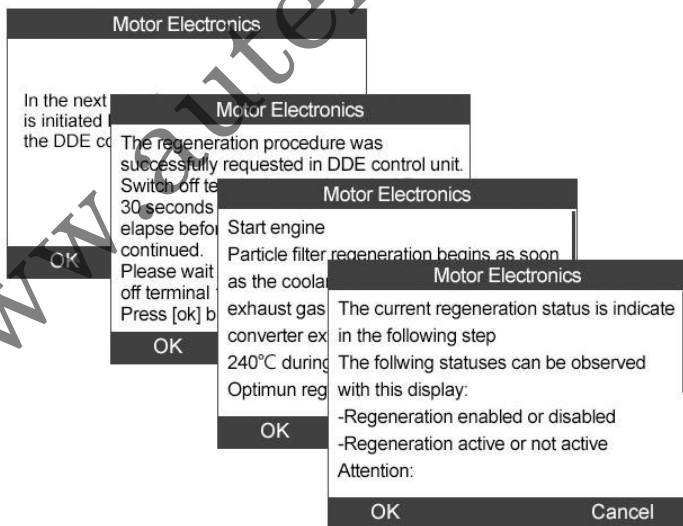
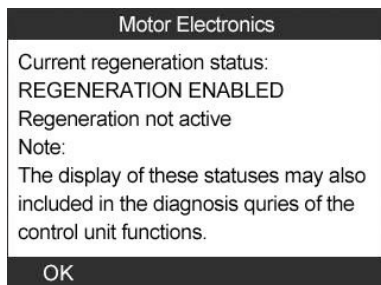

Figure 14.24
Figure 14.25
- 4) A series of instruction screens appears for users to perform the particle filter regeneration step by step. Follow the onscreen instructions and press the **OK** button. (Figure 14.24) Do this until the tool reads off the regeneration status as below. (Figure 14.25)